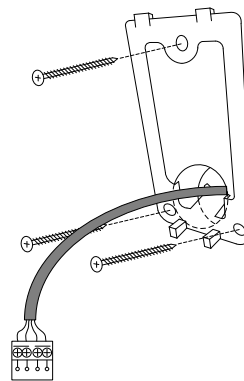

Fig. 4 – Secure wall plate
3. Insert the large tab on the bottom of the Wall Plate into the  $\frac{3}{4}$ in/19mm hole and secure to the wall using the three screws provided (Fig. 4).